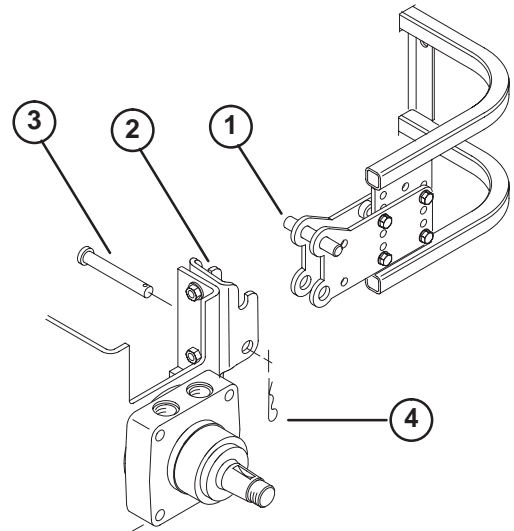

Figure 9
- Lift blower and position hitch pins into slots on top of receiver brackets on Sand Pro (Fig. 9).